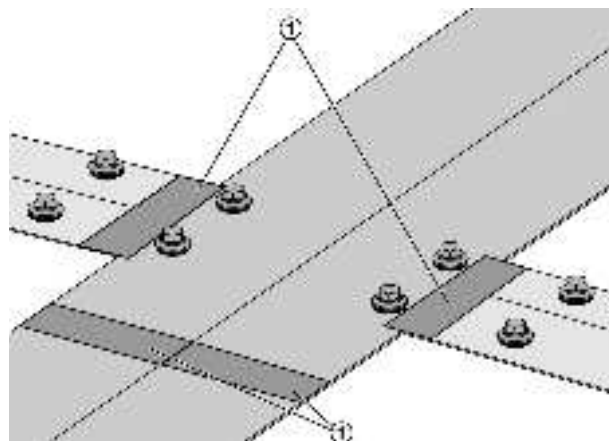

Fig. 21: Sealing the joints
2. ▶ Seal the joints (Fig. 21 /1) between the cover strips with the supplied adhesive strips (100 x 40 mm).